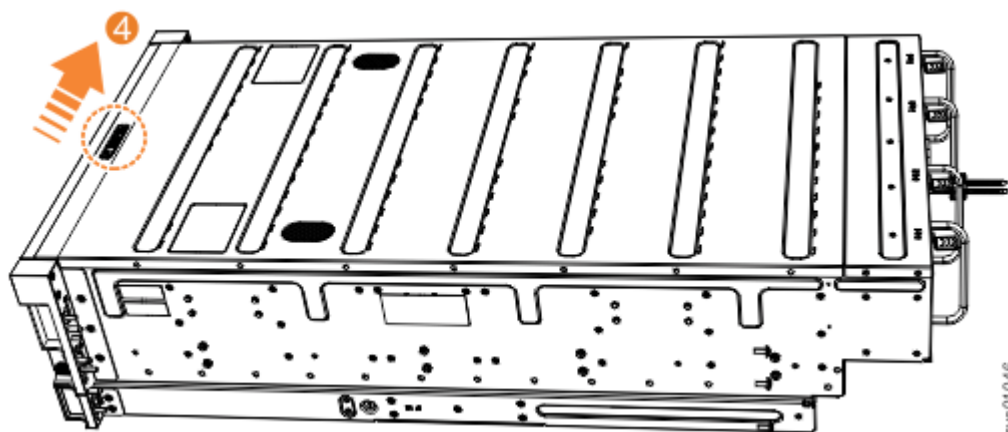

Figure 69. Locking the top cover
5. Lock the cover into position by sliding the release lever **4**, as shown in Figure 69 on page 62